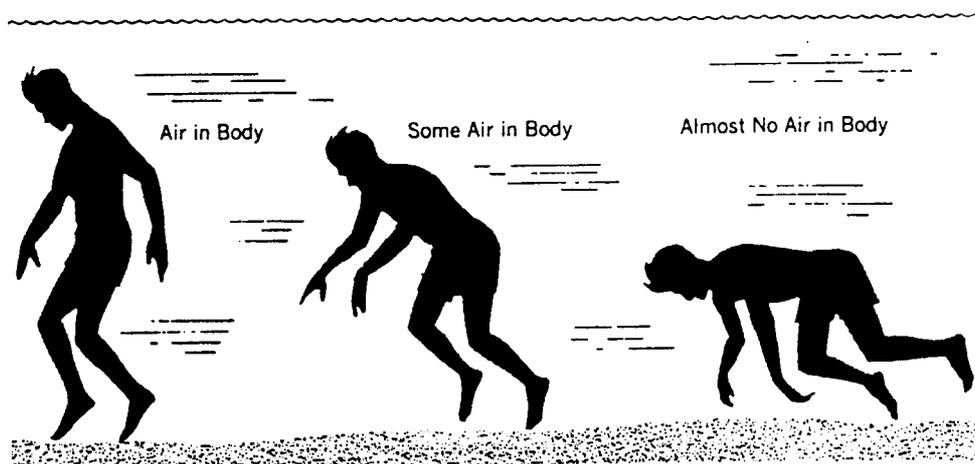

Figure 11:1—Body Positions
- 11.14** The position of the body in the water largely depends upon the amount of water in the lungs and stomach. (See Figure 11:1). In drowning cases where there is little water or no water in the lungs and stomach the body will be in an almost upright position. With less air in the lungs and stomach, the body will be in a crouched position, and with almost no air in the body it will be in a crawling position.